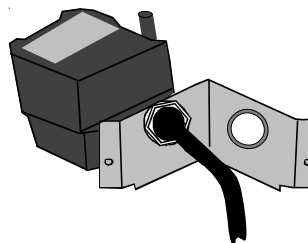

Figure 6
- Place the pump bracket onto the end of the pump by feeding the pump cord through the hole in the bracket and pushing the bracket onto the threads of the pump. Slide the supplied washer onto the threads of the pump. Screw the pump nut onto the threads of the pump and tighten the nut so that the bracket is secure against the pump (Figure 6).